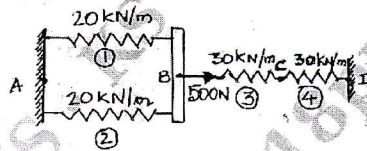

Fig. Q2 (b)
- A system of springs is subjected to a force of 500 N as shown in Fig. Q2 (b). Determine the forces at points A and D, and displacement at points B and C. Apply the principle of minimum potential energy. (10 Marks)